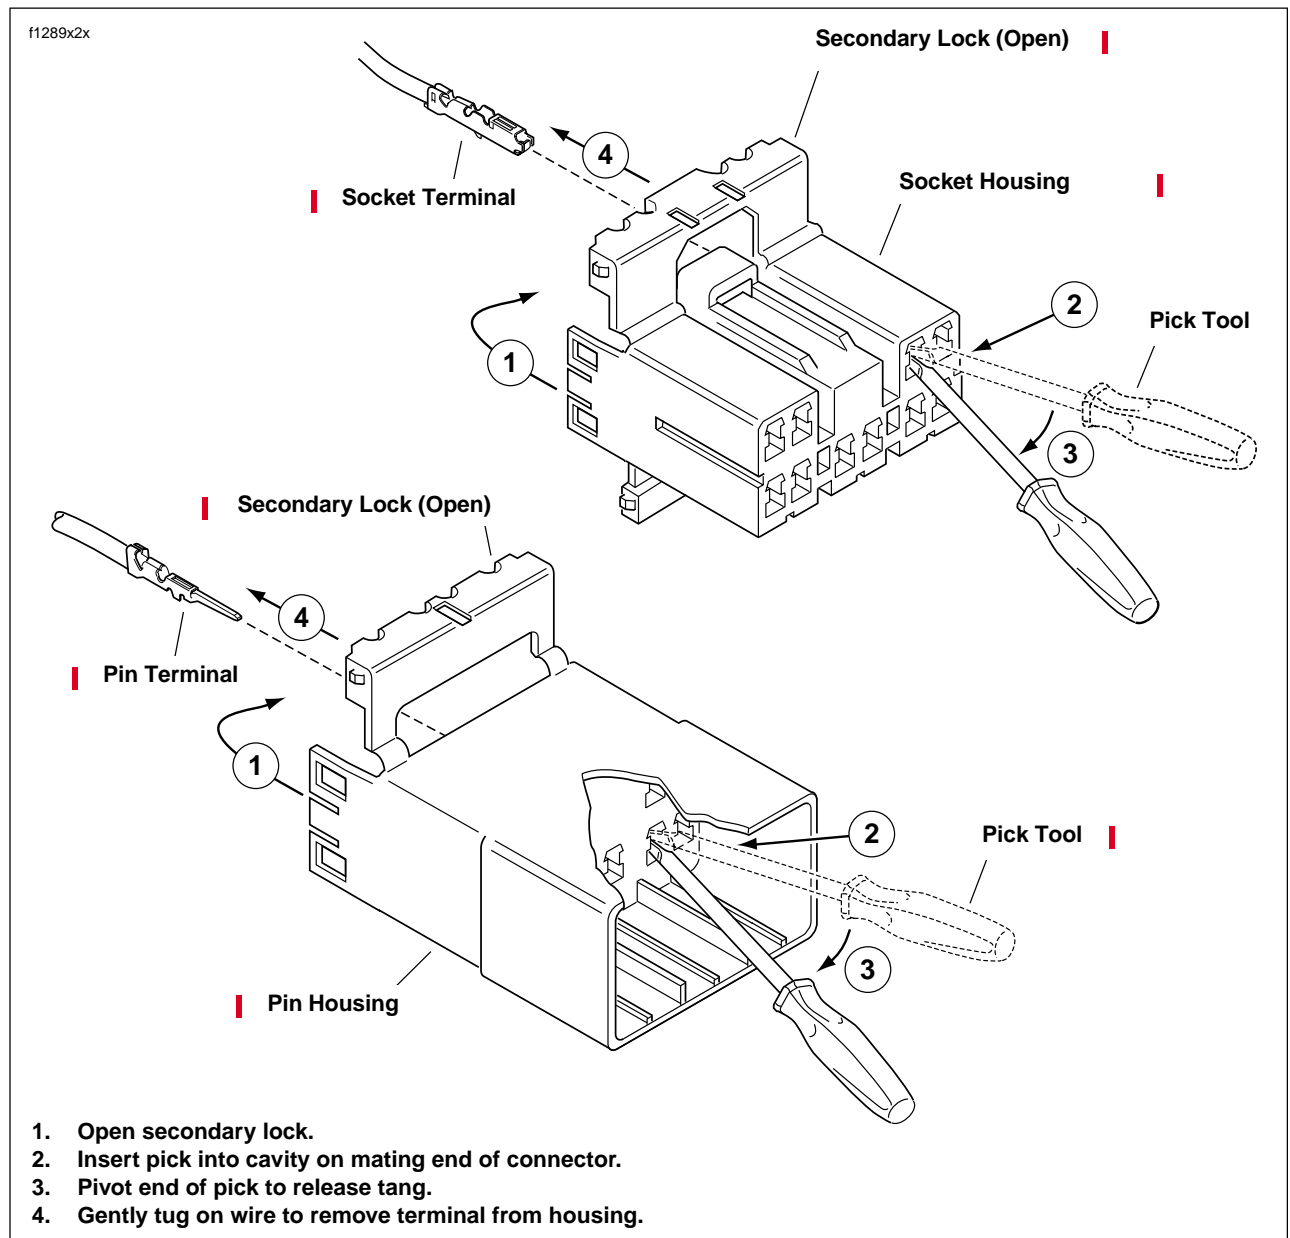

Figure B-5. Release Tang and Back Out Terminals
5. See Figure B-5. With the flat edge against the terminal, insert the pick (Snap-On TT600-3) into the cavity until it stops. Pivot the end of the pick away from the terminal and gently tug on wire to pull terminal from chamber. Do not tug on the wire until the tang is released or the terminal will be difficult to remove. A “click” is heard if the tang is engaged but then inadvertently released. Repeat the step without releasing the tang.
1. See Figure B-5. From the secondary lock side of the connector, insert the terminal into its respective numbered chamber until it snaps in place. For proper fit, the slot in the terminal must face the tang in the chamber.